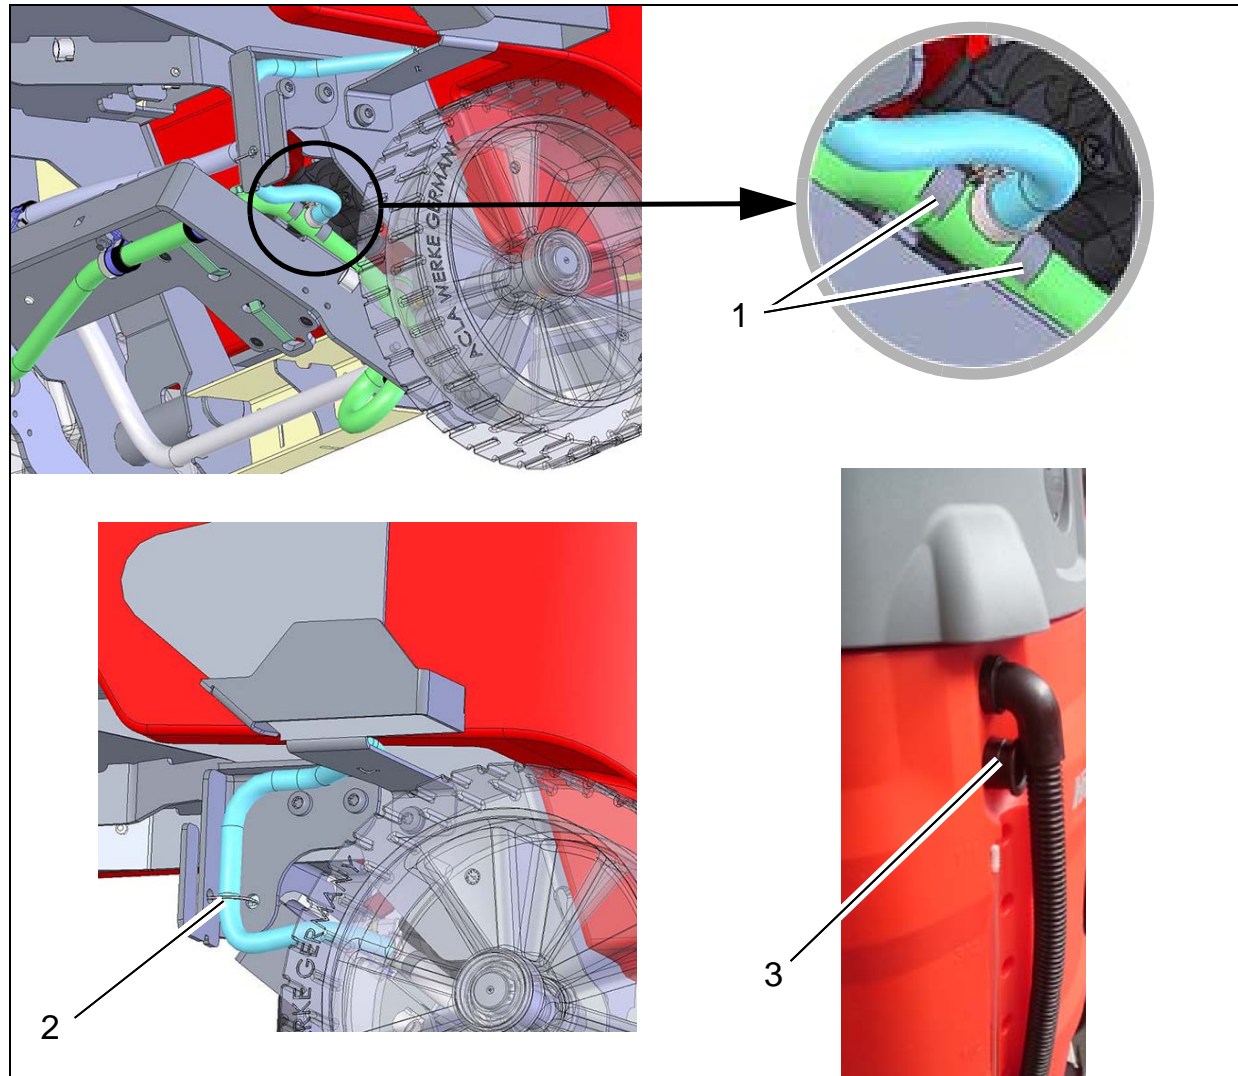

Fig. 4
1. Cut water hose at machine side (shown in green in Fig. 4) and insert T-piece of holder hose (shown in blue in Fig. 4) accordingly.
2. Secure hoses to T-piece at both sides using hose clamps (Fig. 4/1).
3. Fix hose to holder of wiper using cable tie (Fig. 4/2).
4. Sleeve (Fig. 4/3) is needed for the spray suction tool option. Position sleeve beneath suction hose.